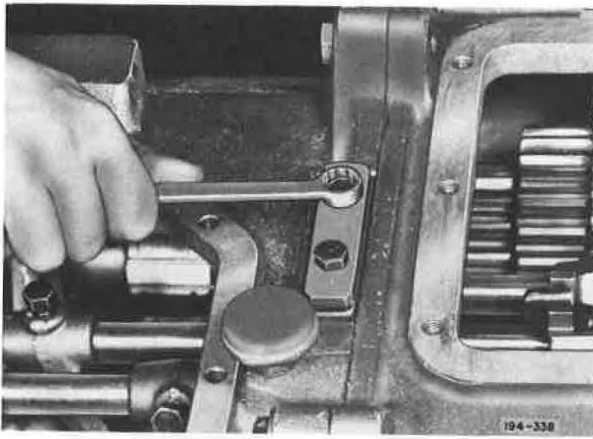

Figure 5-677. Removing Capscrews
12. Remove shifter rail poppet ball cover capscrews and cover. See **Figure 5-677**.